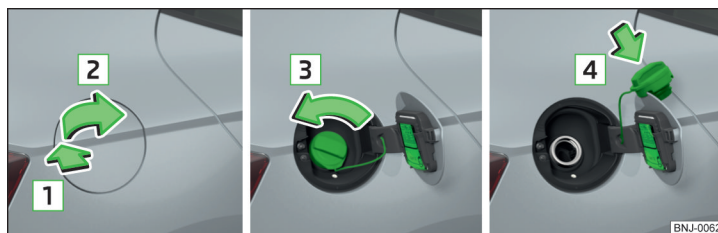

Fig. 245 Open fuel filler flap / unscrew tank cap / place the tank cap on the fuel filler flap
- Press the fuel filler flap in direction of arrow **1** and fold in the direction of arrow **2** » Fig. 245.